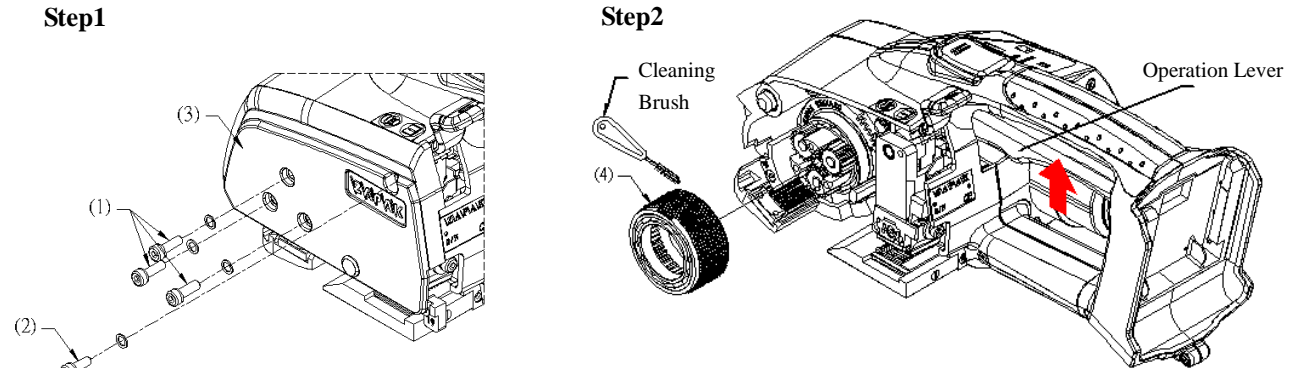

FIGURE 17 Cleaning up a Feeder Wheel
7.1.2 Complete cleaning method: (Refer to Figure 17)
Step 1: Unscrew and take off 3 pieces of M4×0.7×12mm screws(1) & 1 piece of M4×0.7×10mm screw(2) and side cover (3) can be removed.
Step 2: Lift up operation lever, take out feeder wheel (4) and clean feeder wheel completely by cleaning brush.